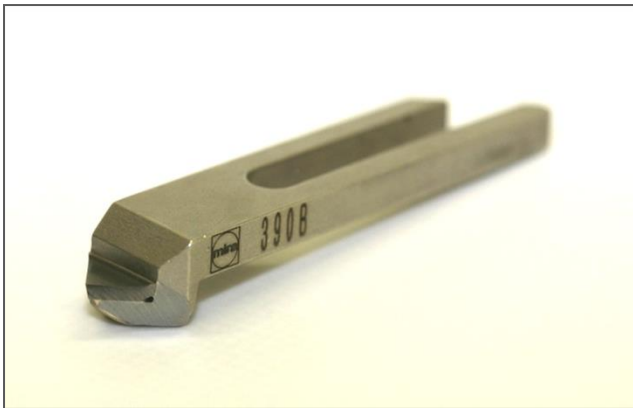

Fig. 30
1. Select the ring formtool type 390 (A, B or C formtool) which suits the inside diameter (Fig. 30). See separate formtool catalogue.